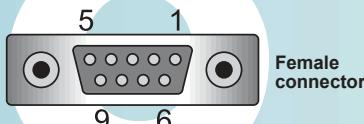

Fig. 18
- This link is accessible by removing the RS232 connector cover on the underneath of the device. A DB9 connector is used (Fig. 18), with the pin connections defined in the table opposite.